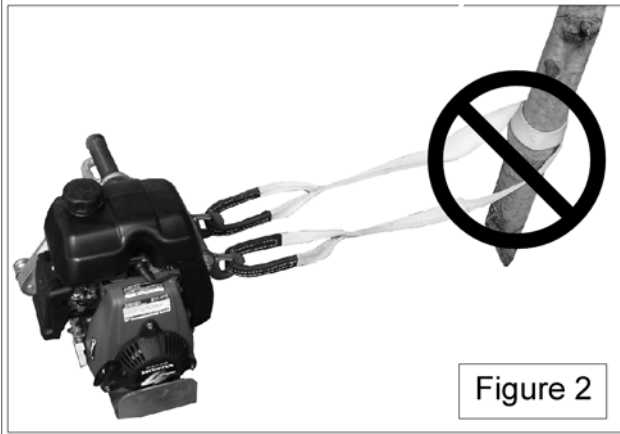

Figure 2
**CAUTION** **DON'T DO THIS!** WHEN YOU ANCHOR THE WINCH, MAKE SURE THAT YOU **DO NOT** DO A COMPLETE WRAP AROUND THE ANCHOR POINT (FIGURE 2). THIS SET-UP WILL PREVENT PROPER ALIGNMENT OF THE WINCH WITH THE LOAD AND WILL PUT UNEVEN TENSION ON THE WINCH ANCHOR HOOKS.